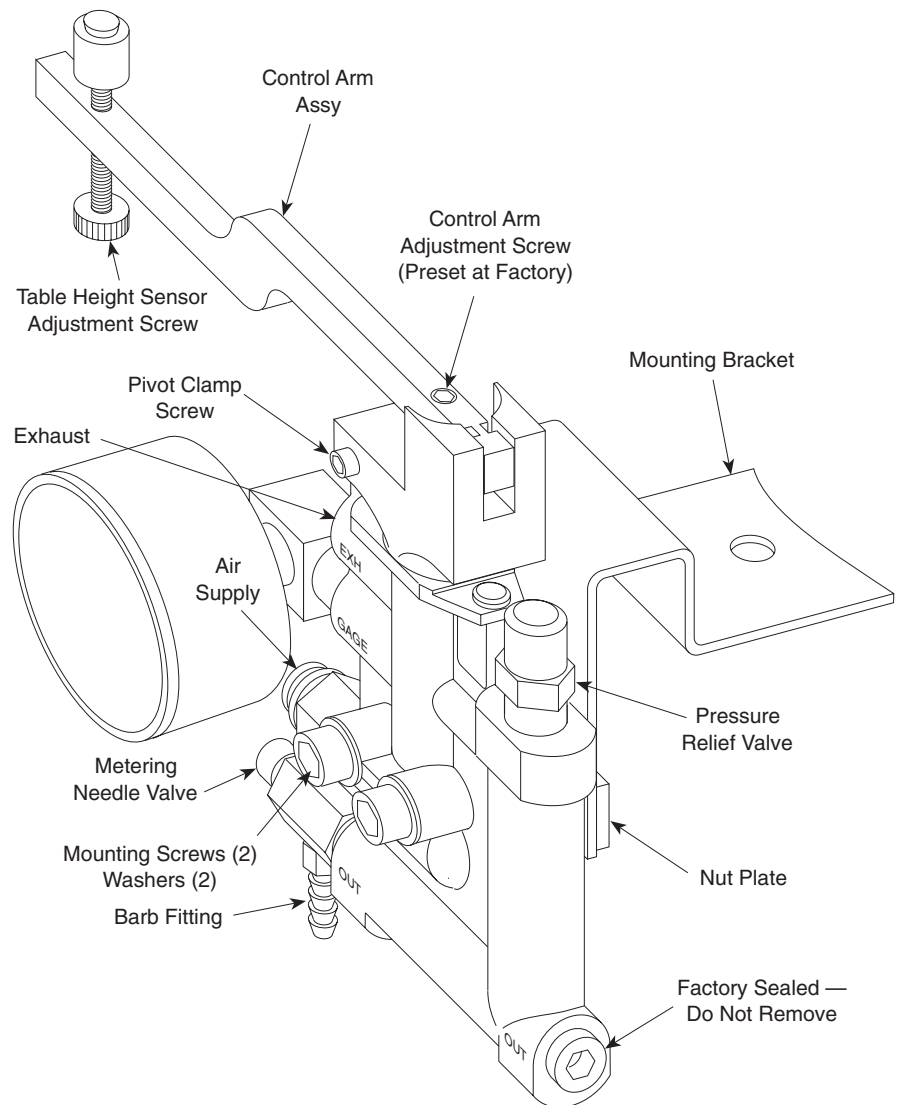
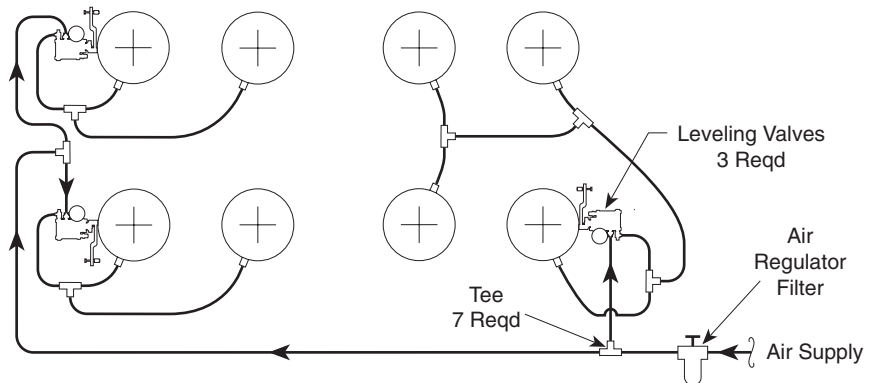
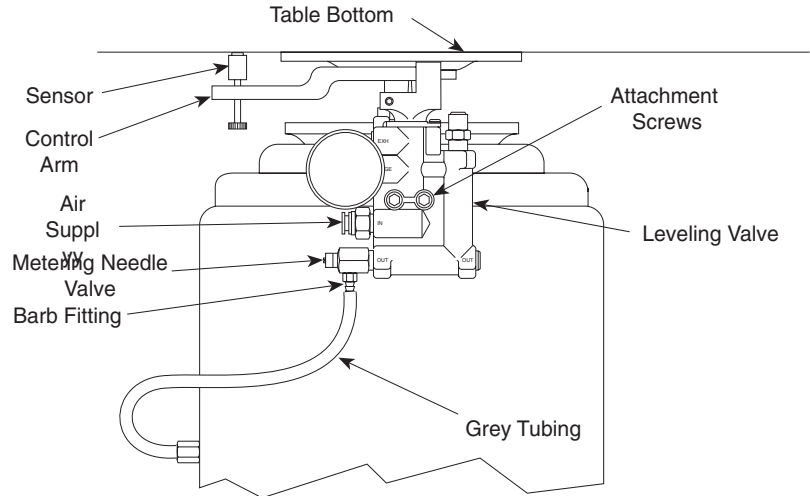
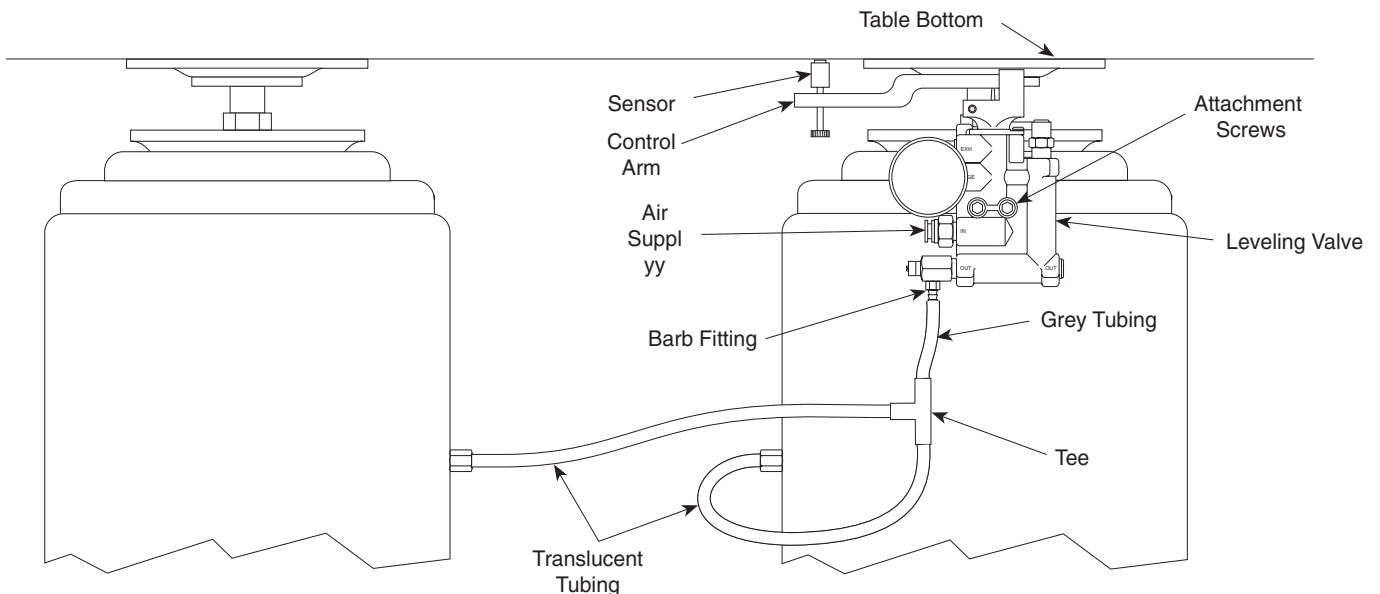

Figure 2.5 — IPV Leveling Valve
Figure 2.8 — Air Line Routing
Figure 2.9 — Detail of Valve Connections, Single Isolator
Figure 2.10 — Detail of Valve Connections, Two Isolators
The IPV leveling valve is shown in Figure 2.5. Three valves are used in all systems, regardless of the number of isolators, as only three points are required to determine a plane. The leveling valve locations are selected such that they form the largest triangle possible under the table. The larger the triangle, the more stable the system will be. When two or more isolators are controlled by the same valve, they act as a single large isolator supporting the table at the center of force of the several isolators. The floating height of the system is determined at the valve position. Therefore, ideally, the valves should be located at the center of force of the isolators they control. In practice, however, simply grouping the isolators and their control valves is sufficient. The groups of isolators and their valves act as three legs for the system. The center of gravity of the combined table and payload must be within the triangle formed by the centers of force of the isolator groups for the system to float. Figure 2.8 shows valve and isolator arrangements for rectangular tables. Complex table shapes require isolator and valve layouts designed specifically for each application.
(Figure 2.5)
- F. For systems with more than four isolators, use the same basic setup just described: Two valves control the height of the two end corners (A & A) while the third valve (B) controls the height of the opposite end. See Figure 2.8.
- A. Connect air lines to the isolators as shown in Figure 2.8. When cutting tubing, be sure the ends are round and cut squarely. This is best done with a single edge razor blade (scissors will deform the tubing, causing leaks). The connections are detailed in Figures 2.9 and 2.10.
2. Connect a length of grey tubing (supplied with the valves for use on the valve barb fitting) between the hose barb on the valve and the inlet connector on the isolator (Figure 2.9). If more than one isolator is supplied by a valve, use “Tee” connectors as required (Figure 2.10). Connect the grey tube from the valve to the “Tee” and use translucent tubing between the “Tee” and each isolator.
- B. Close the metering needle valve (Fig. 2.9) on each valve and then open it  $\frac{1}{2}$  turn for each isolator that is connected to it. For example, if the valve controls two isolators, the needle valve is opened 1 full turn. [Please note: If you have a minimum load on your optical table top, open the metering valve about  $\frac{1}{8}$  –  $\frac{1}{4}$  of a turn.]
- B. Adjust the Table Height sensor screw of each isolator (Figure 2.5) as required to obtain this gap. When all isolators are adjusted, re-check the level of the table. NOTE: this step should require only minor adjustments. Do not move the small set screw near the pivot of the valve control arm.